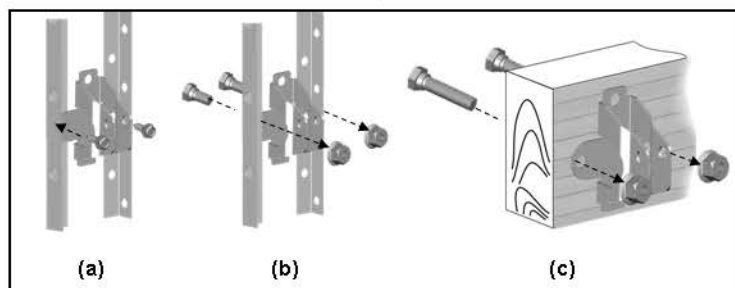

Fig.2
2. Depending on the construction of your door, install using one of the steps shown in Fig. 2 below:
(a) Mark and drill two 3/16" holes. Make sure not to drill through the garage door. Secure the Door Bracket with two 1/4" x 5/8" Self-Threading Screws (provided) as shown in Fig.2(a).
(b) Alternative installation: Drill two 5/16" holes through the door. Secure the Door Bracket using two 5/16" Bolts, lock washers and nuts (not provided) as shown in Fig.2(b). The length of bolts will depend on the thickness of your door.
(c) Mark and drill two 5/16" holes through the garage door. Secure the Door Bracket using two 5/16" carriage bolts, washers and nuts (not provided) as shown in Fig.2(c). The length of bolts will depend on the thickness of your door.